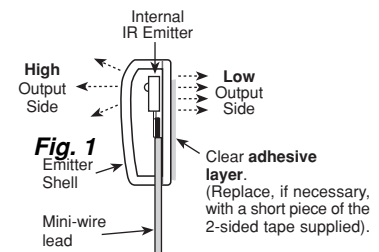

Fig. 2
- Each emitter has a clear **adhesive layer** on the bottom flat surface of the shell (**Fig. 2**).
- The high output from the curved top side of the emitter (**Fig. 2**) permits control from as much as 3 feet away when on the axis of the IR sensor window of the component.